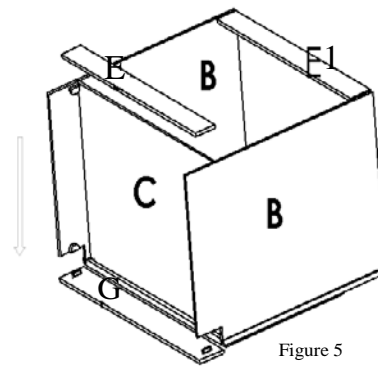

Figure 5
**4. Installing the Back Braces and Toe Kick (Figure 5):** Put the top back brace (E1) and the bottom back brace (E) at the rear of the side panel (B). Align them and lock each cam lock. Install the toe kick (G) by locking the cam lock at both ends.